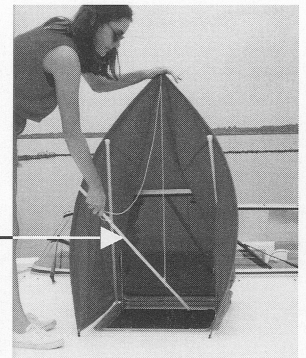

Figure 1
**STEP 3:** Set **BREEZE BOOSTER™** over top of hatch with the bracing placed outside the hatch frame and with the **BREEZE BOOSTER™** facing into the wind.(Fig. 1)